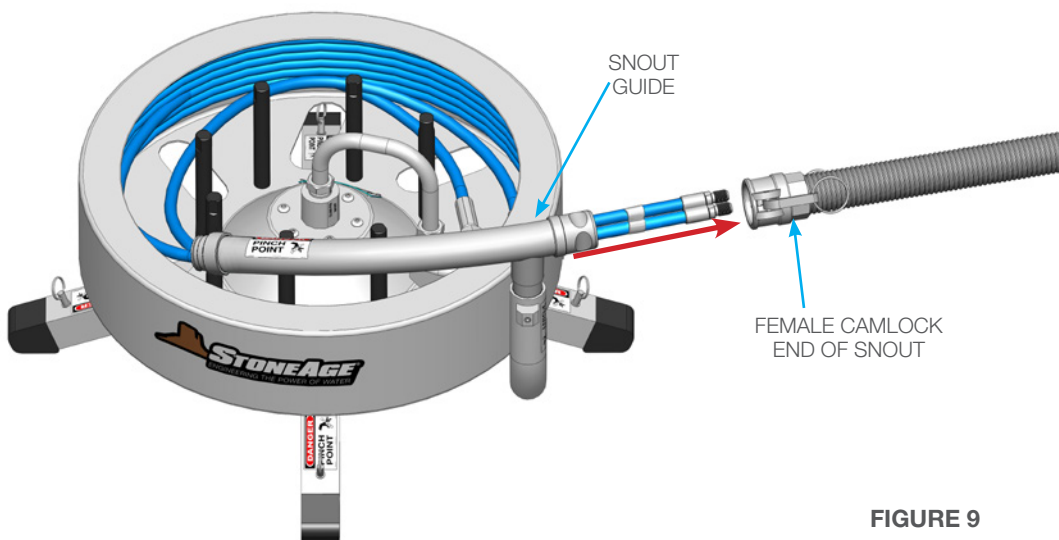

FIGURE 9
3. Continue to push the two hoses through the Snout, then connect the Female Camlock end of the Snout to the Snout Guide. **(Figures 9 & 10)**